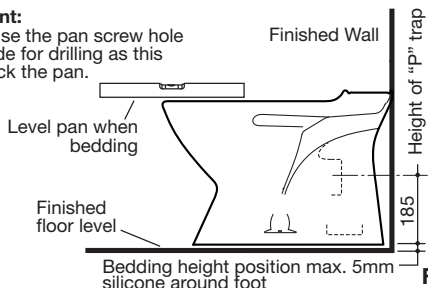

Fig. 4
- 1- Position pan onto pan connector and locate the cistern onto the pan, checking that the cistern aligns with the finished wall. Adjust pan position if necessary and mark location of pan fixing holes on the floor. Remove the cistern and pan, as detailed in **Fig. 4**.